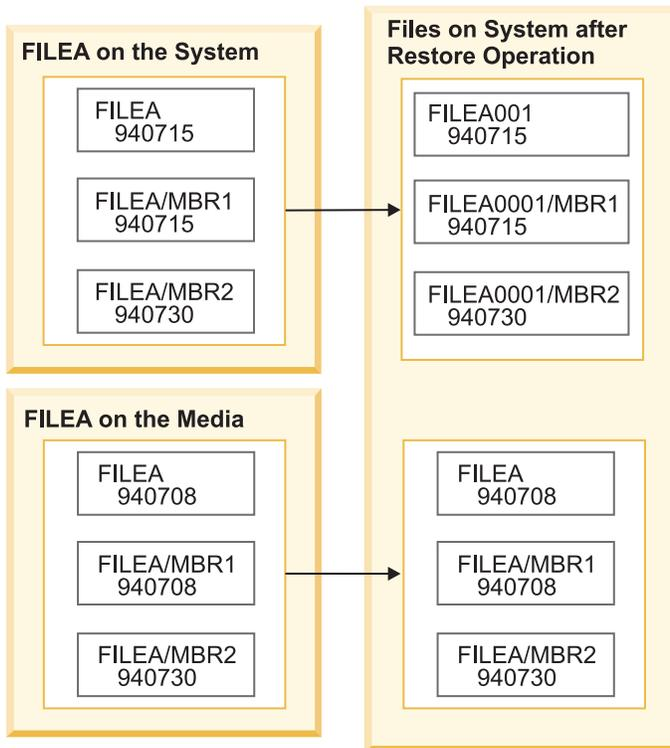

Figure 22. Restoring database files with different creation dates
**How the system restores database files with `ALWOBJDIF(*ALL)`:** Figure 22 on page 258 shows what the system does when creation dates for a database file are different on the system and media copies: